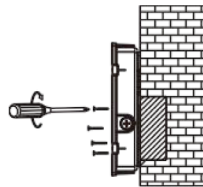

Fig. 6
8. Use screws to secure the bottom shell on the mounting seat. (Fig. 6)